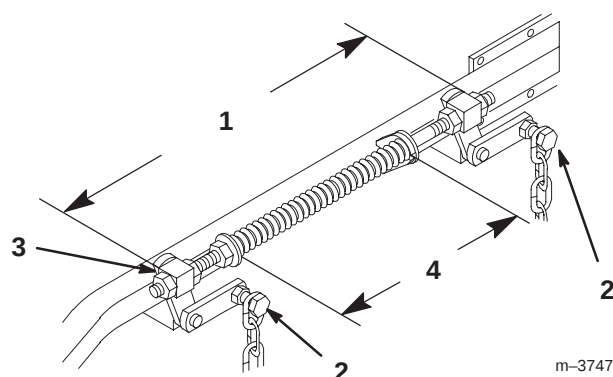

Figure 64
6. Loosen four (4) top chain bolts in slots. Check the length of the rod/swivel assemblies. Distance from outside of rear swivel to outside of front swivel should be 19-17/32" (496 mm) (Fig. 64). Make sure that all four swivels move freely in holes.
8. Lift up on four (4) top chain attachment bolts, in the slots, to take slack out of chains and tighten flange lock nuts. (Deck is still supported by two rear and one front blocks under mower.)
2. Springs are compressed so the distance between the two large washers should be 11" (279 mm) (Fig. 64).
3. Adjust by turning nut in front of each spring (Fig. 64). Clockwise will shorten spring; counterclockwise will lengthen spring.